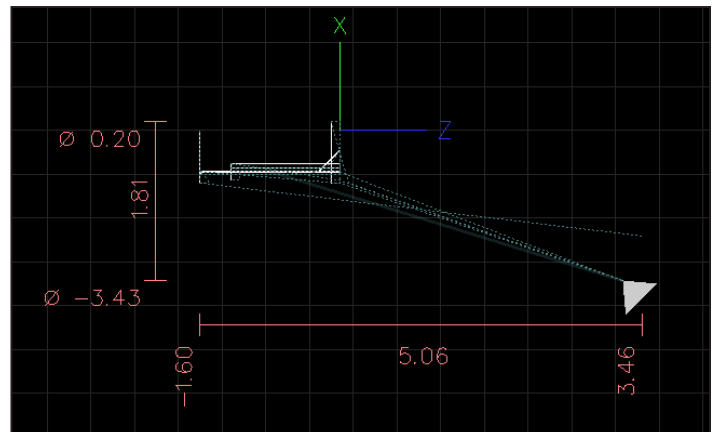
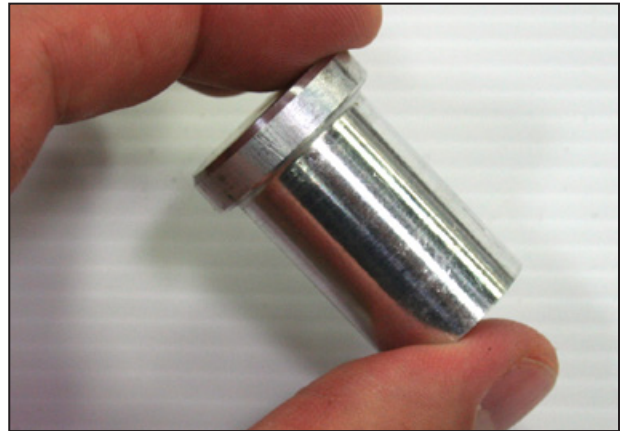

Figure 4.27
Figure 4.28
3. Finally, click on *Append to File* and choose the file you generated in the *Operation 1* section earlier in this chapter. Your screen should now look like the screen shown in **Figure 4.27**. The finished workpiece is shown in **Figure 4.28**.
Figure 4.27 shows a tool path representing the first, second, third, fourth and fifth. Run the program using the steps described in the *Operation 1* section earlier in this chapter.